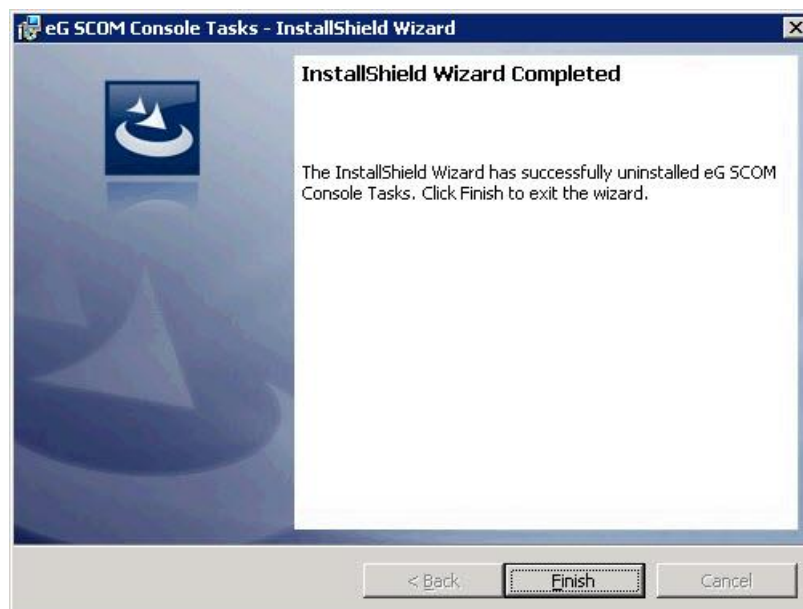

Figure 4.11: The completion of the uninstallation of the eG SCOM Console Tasks application
- Upon successful uninstallation of the application, the message depicted by Figure 4.11 will appear. Click the **Finish** button in Figure 4.11 to exit the wizard.